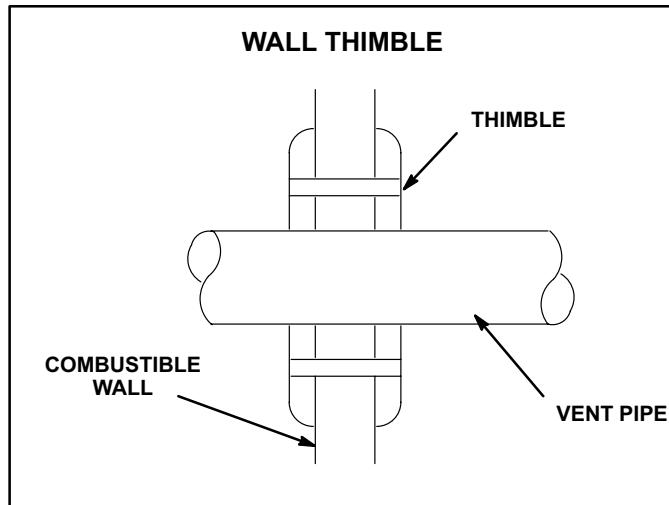

FIGURE 8
- 8 - The vent may pass through a wall where provisions have been made for a thimble as specified in the Standards of the National Board of Fire Underwriters. See figure 8.